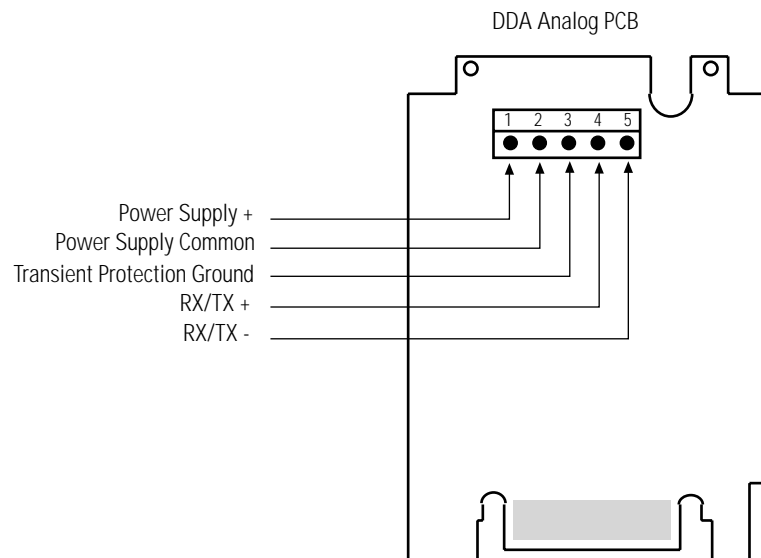

Figure 9.1 Terminal Block Connections
6. Turn ON the network power supply. With an intrinsically safe measuring instrument (voltmeter or other), measure the voltage at each gauge terminal block for both the power supply circuit and the communication circuit. If an I.S. measuring instrument is not available, approved procedures and “safe area” work permits have to be used. For the power supply circuit, connect the voltmeter positive lead to the DDA gauge power supply positive terminal (terminal #1 on the terminal block) and the voltmeter negative lead to the DDA gauge power supply common terminal (terminal #2). For the communication circuit, connect the voltmeter positive lead to the DDA gauge RX/TX+ terminal (terminal #4) and the voltmeter negative lead to the DDA RX/TX- terminal (terminal #5). In addition, measure the voltage between each communication line and DC ground (power supply common, terminal #2). See figure 9.1 below.